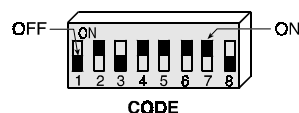

Figure 4. Code Selector
C. All models have an 8-position DIP switch (marked 1 - 8). Each switch may be set to ON or OFF position, to create a unique digital system code (see Fig. 4).
CAUTION: The code combination 2, 4, 5, 6, 7 ON and 1, 3, 8 OFF (as shown in Figure 4) is a factory test code that should be avoided. Also do not select "easy" codes such as all keys ON, all keys OFF or alternating ON/OFF settings.